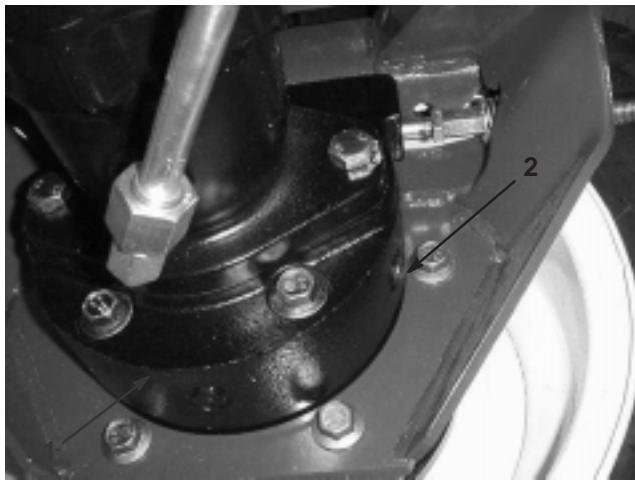

Figure 10
2. Remove the plug on the planetary (Fig. 9) and the check plug on the back side of the brake (Fig. 10). Oil should be at the bottom of the check plug hole on front and back side of the brake.